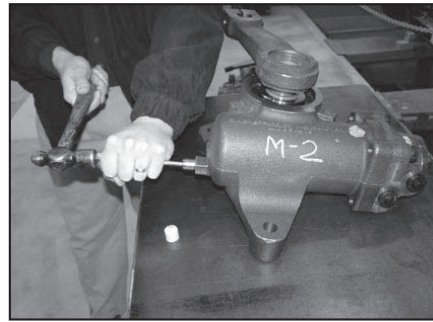

Figure 17. Resetting Automatic Plungers.
7. Reset the automatic plungers by tapping them in with a 1/4" punch and hammer until you feel the plunger bottom out in the bore (Figure 17). Be careful not to score the plunger bore. Scoring the bore will cause a leak that cannot be repaired. After the automatic plungers are installed, set them by repeating steps 1 - 6.